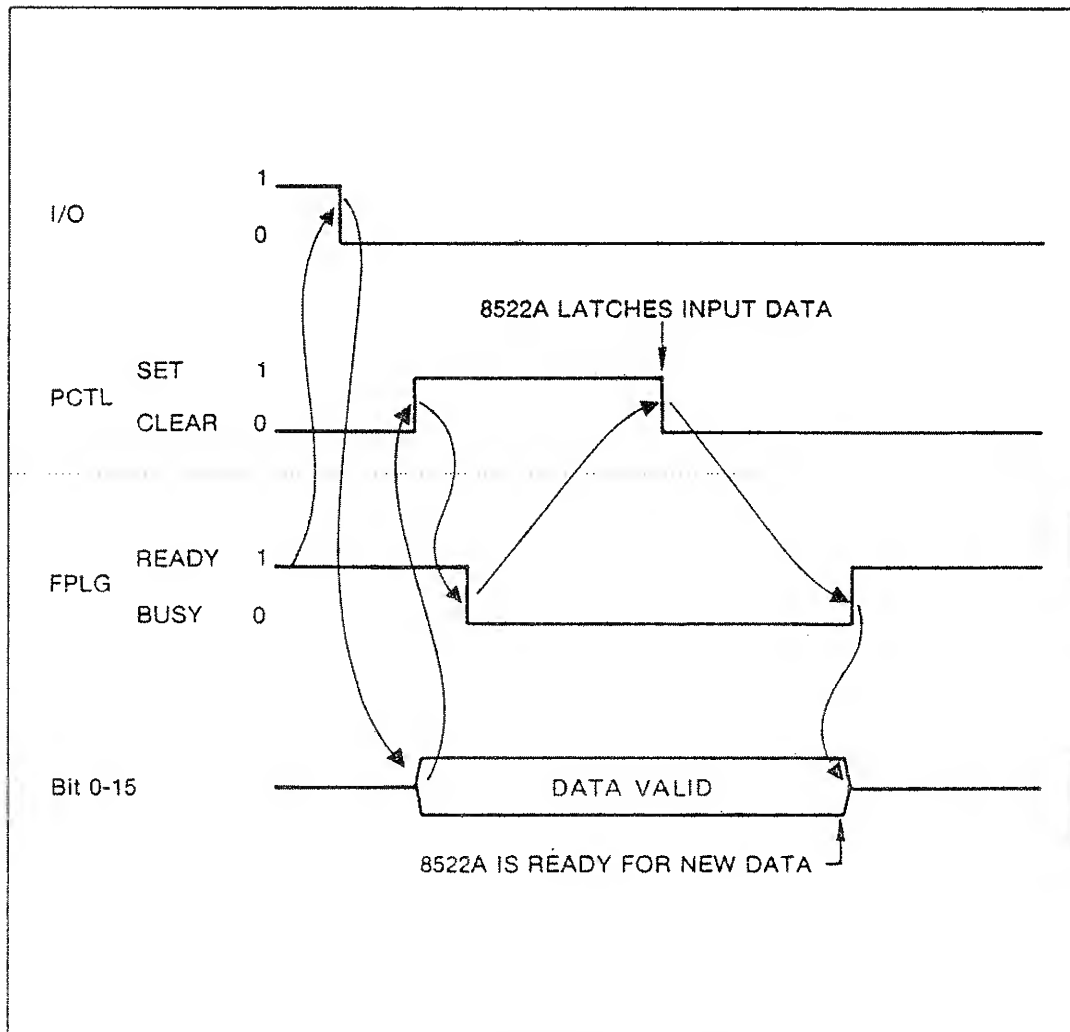

Figure 8-5. Three-wire Data to 8522A
1. Transfer data from remote controller to 8522A, i.e., commands. See Figure 8-5.